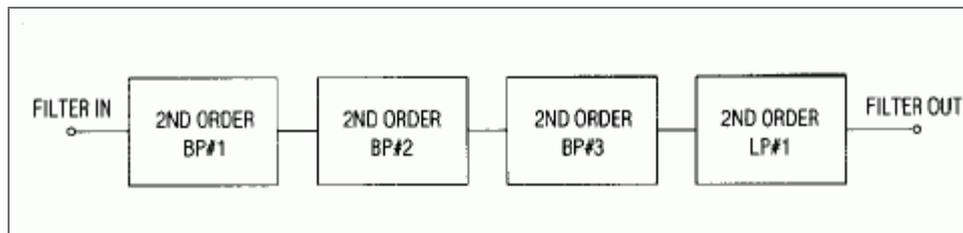
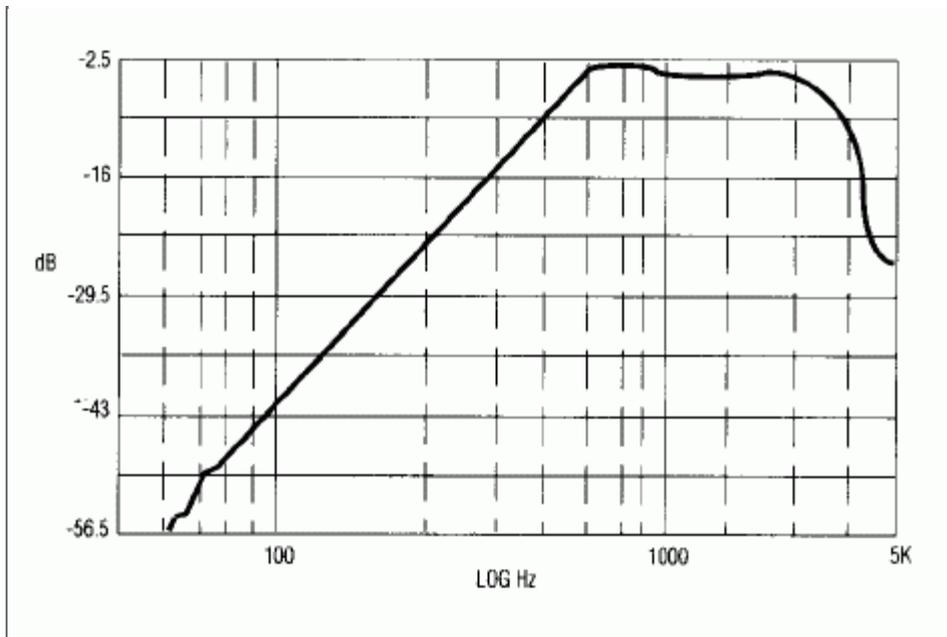

Figure 1. Cascaded, 2nd-order universal filter sections implement a C-message filter.
Figure 4. Circuits in Figure 1 and Figure 2 produce the same frequency response.
The C-message filter, which simulates the frequency response of the human ear, is a commonly specified test and measurement filter for voice, audio, and telecommunication applications in the U.S. In Europe, a close relative is a psophometric noise-weighting filter. You can construct either type by cascading three 2nd-order bandpass sections with a 2nd-order lowpass section. The C-message filter, for example, is shown in **Figure 1**
Dual universal, 2nd-order IC filters provide a compact and efficient means for implementing the circuit of Figure 1. If the IC filters are programmable, switched-capacitor types as shown, you can rapidly implement a C-message, psophometric, or other test filteres on demand simply by loading the chips with different sets of coefficients. These coefficients set each 2nd-order section's filter mode, Q, and cutoff or center frequency  $f_0$ . The C-message filter has poles only, which are specified by the IEEE Standard 743-1984:
**Figure 2** shows the external connections that configure two filter ICs in the architecture of Figure 1, along with a table of decimal equivalents for the digital coefficients associated with each filter section. These 2nd-order sections establish pole locations in accordance with the  $f_0$  values listed. Each section contains two continuous-time Chebyshev filters whose center frequency can be digitally programmed in 128 steps over the range 1 to 25kHz. Passband ripple is 0.1dB. For maximum signal-to-noise ratio, the signal amplitude at
Figure 2. The circuit connections and coefficient sets shown enable two programmable, switched-capacitor filter ICs to realize the C-message filter of Figure 1. By loading the ICs with different coefficient sets, you can obtain the European psophometric noise-weighting filter and other test/measurement filters.
IC2 implements BP#2 and BP#3 with the same gain and signal levels as in Figure 1. The external op amp with resistors and capacitors implements LP#1, which also serves as the output smoothing filter. Like BP#1 you can design LP#1 as an infinite-gain, multiple-feedback circuit with  $f_0 = 3492.778Hz$ ,  $Q = 2.7316$ , and gain = 2.
In both filter circuits (Figure 1 and Figure 2) the coefficients for  $f_{0A}$ ,  $f_{0B}$ ,  $Q_A$ ,  $Q_B$  were calculated by software available from Maxim (see data sheet). **Figure 4** shows the filter transfer function for either realization.